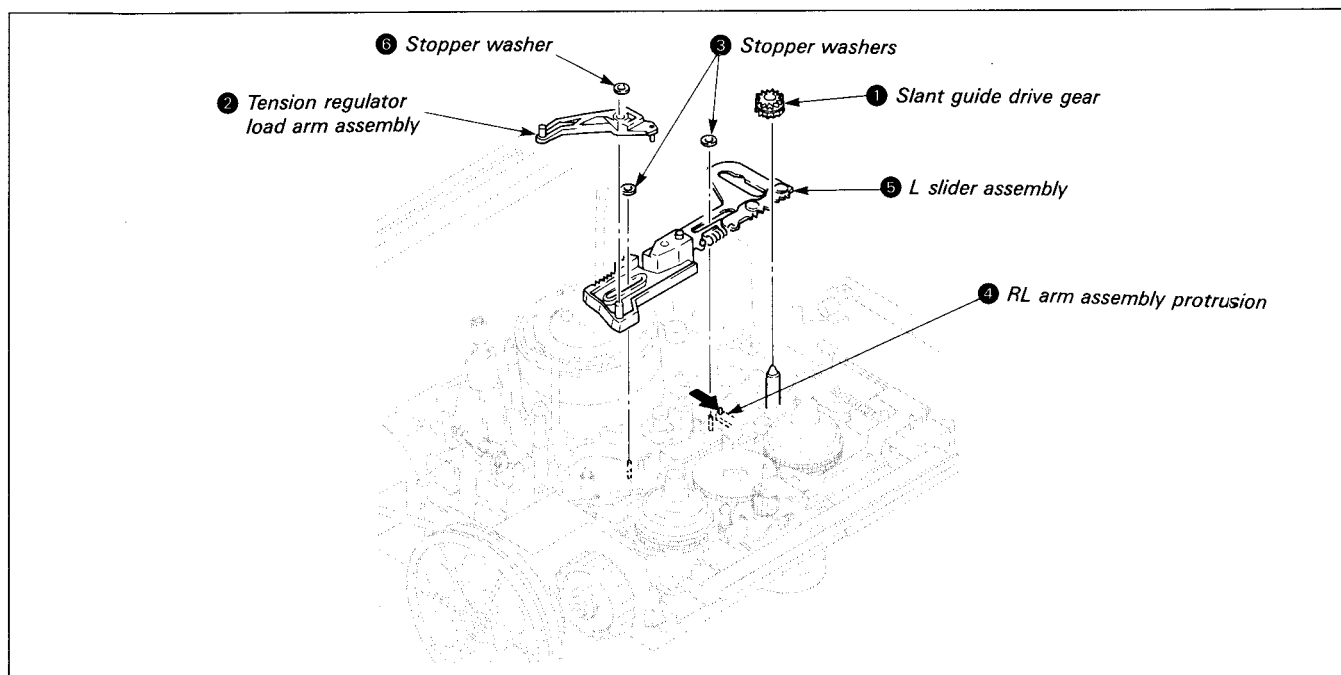

Fig. 7-30.
7-3-11. L Slider Assembly (See Fig. 7-30. ~ 32.)
- 6) Remove the tension regulator load arm assembly according to 7-3-11., 1. Removal, 8). (See Fig. 7-30.)
- 7) Remove tension spring ①.
- 8) Remove the two stopper washers ② and remove the S main brake assembly ③ and T main brake assembly ④.
- 10) Remove the screw ⑤ and the drive assembly ⑥.
- 12) Remove the two tension springs ⑦.
- 13) Remove REW brake assembly ⑧.
- 14) Remove stopper washer ⑨ and B release slider ⑩.
- 15) Remove stopper washer ⑪ and ring lock spring ⑫ and RL arm ⑬.
- 16) Move the M slider ⑭ to the right (leave about 5 mm at the left.)